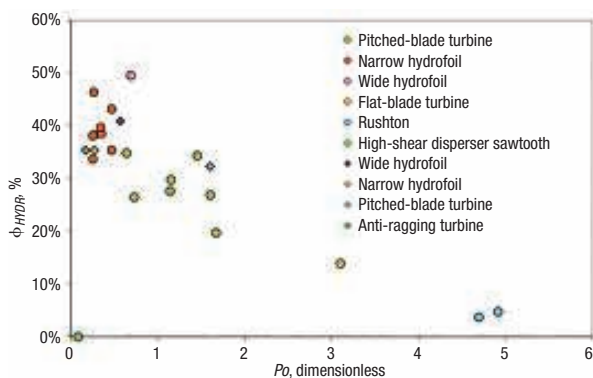
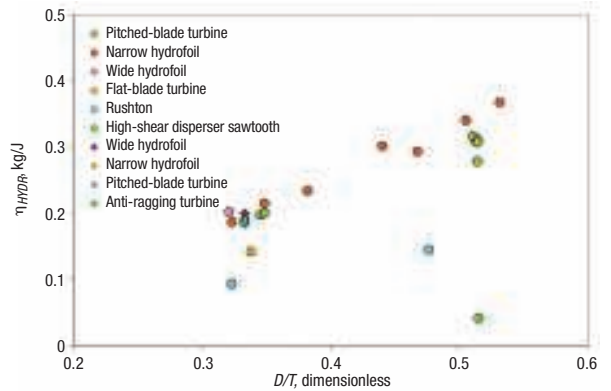

FIGURE 2. This graph plots the hydraulic efficiency, ϕ_{HYDR} , versus the power number for various impellers
FIGURE 3. Shown here is a plot of the hydraulic efficiency, η_{HYDR} , versus impeller-to-vessel-diameter ratio
The hydraulic efficiency, ϕ , is plotted against the impellers' power numbers in Figure 2. The circular symbols represent data measured by the FMP (Fluid Mixing Processes) consortium [5] using laser-Doppler anemometry and the diamonds represent data measured in the PMSL laboratory using particle-image velocimetry. The data are in agreement showing that measurement technique has no effect on the values of hydraulic efficiency calculated.
The hydraulic efficiency data plotted in Figure 2 are replotted in Figure 3 using the new definition from Equation (15) with a power per mass of 1 W/kg and vessel diameter of 1 m. The effect of impeller diameter is now taken into account and large diameter impellers ($D/T \approx 0.5$) are more efficient than smaller ones ($D/T \approx 0.3$), pumping approximately twice the mass of fluid per unit of energy input.